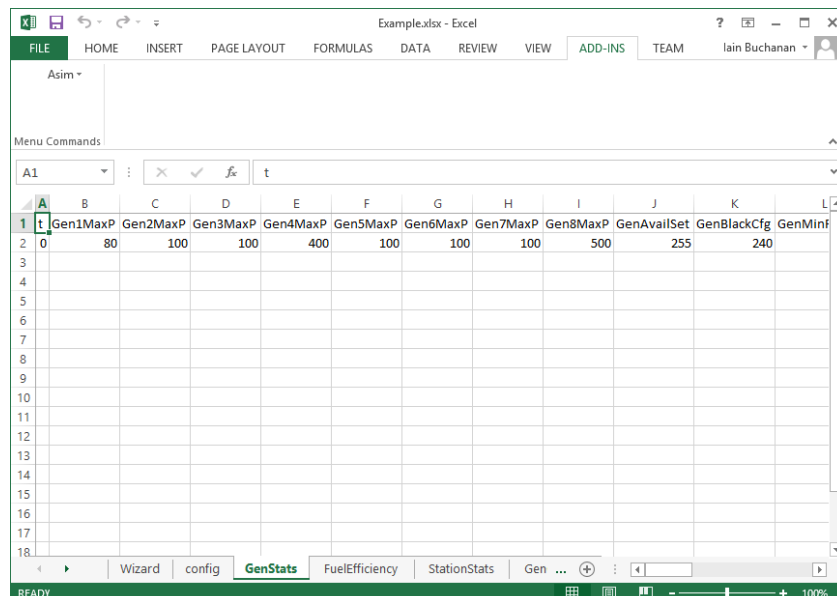

Figure 14: GenStats tab
1. Select the tab called *GenStats* (see Figure 14).
The Fuel Efficiency tab is where the user can specify the fuel efficiency curve for each generator (see Figure 14).